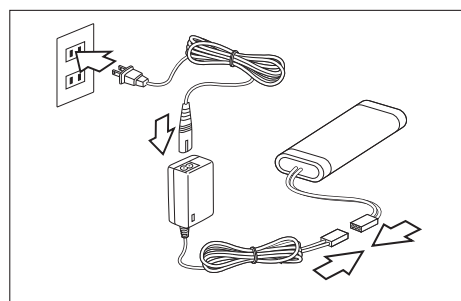

fig.1
- Connect the power cable for AC adapter to the AC outlet and plug the other end to the AC adapter. (fig.1)